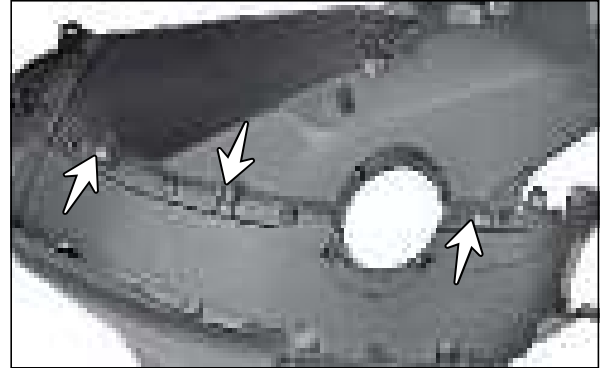

Fig. 2.20
- Remove the CRR flanged pan head tap screw (ST4.2x13 - 3 Nos.) from the mounting of cover fuel tank outer R. (Fig. 2.20)